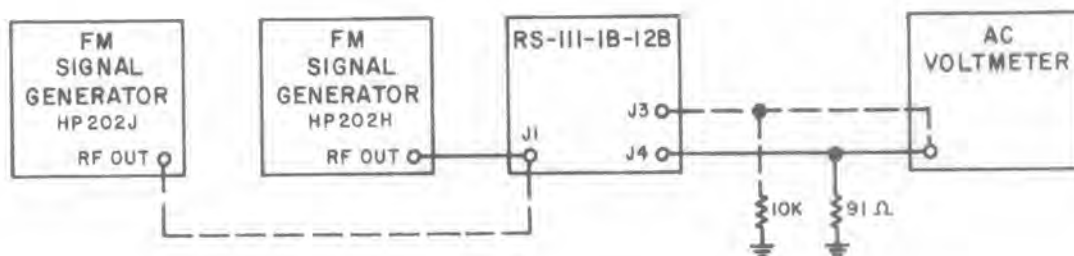

Figure 4-4. Test Setup, Deviation Sensitivity/FM Output Stability, Performance Tests.
- (1) Connect the equipment as shown in Figure 4-4.
- (1) Connect the equipment as shown in Figure 4-4. Use the alternate connection (J3) and load for the ac voltmeter.
- (2) On the receiver, select either the 30-60, 60-300, or 235-500 tuner.
- (3) Set the selected tuner to the related test frequency listed in Table 4-6.
- (4) Set the fm signal generator deviation to 240 kc at a 1000 cycle rate. Set the output frequency, and level to the conditions listed in Table 4-6 as determined by the tuner being tested.
- (5) Use the receiver signal monitor and marker to set the signal generator and the receiver to the same frequency.
- (6) Set the ac voltmeter range switch to a scale indicating 0.3 V ac. Observe the dB portion of the scale for a reference.
- (7) Turn off the fm signal generator modulation. The new ac voltmeter indication should be at least 17 dB less than the reference obtained in step (6).
- (2) Set the receiver controls as follows:
- (3) Set the appropriate fm signal generator modulation deviation to 100 kc at a 1000 cycle rate. Also, set the output frequency and level to the conditions listed in Table 4-7 as determined by the tuner selected in step (2).
- (1) Connect the equipment as shown in Figure 4-4. Connect the ac voltmeter to the alternate connector (J3) and load.
- (2) Set the receiver function switch to either the AM/AGC or FM position. (Both of these positions provide agc voltage from the 20/75/300-kc IF amplifier to the two low-band tuners and the 60-21, 4-mc converter.)
- (3) Refer to Table 4-7. Select the tuner to be used for the stability test (30-60, 60-300, or 235-500) and tune to the corresponding test frequency.
- (4) Set the fm signal generator deviation to 240 kc. Set the output frequency and level to the conditions listed for the 2-mc IF bandwidth as determined by the selected tuner.
- (5) Tune the signal generator to the same frequency as the receiver by using the marker on the signal monitor.
- (6) Set the ac voltmeter range switch to a scale indicating 0.3 V ac. Note the dB indication.
- (7) On the signal generator, slowly increase the output level to 10,000  $\mu$ V while observing the dB scale on the ac voltmeter. At no time during this increase should the indication on the ac voltmeter vary more than a total of 4 dB from the reference level noted in step (6).